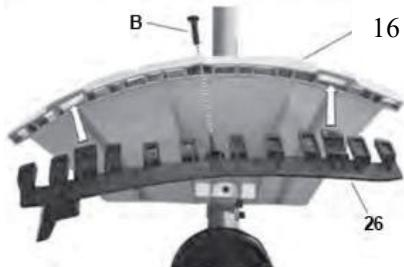

Fig.3-3
- When using the cutting line head, the additional guard, with line cutting knife, must always be fitted. (Fig.3-3, Fig.3-4)
- Secure the additional guard (26) using the screw (B). (Fig.3-3)